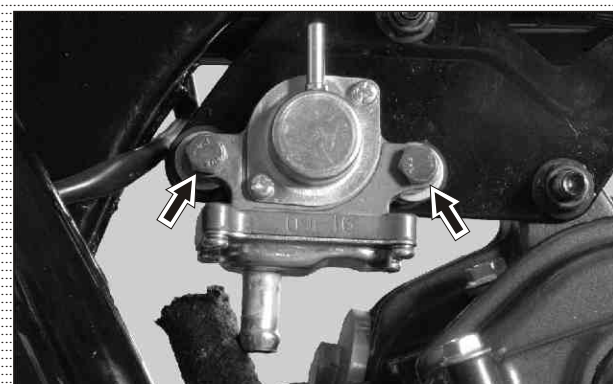

Fig. 4.49
- Remove hexagonal bolt (M6x30 - 2 nos.) from secondary air injection valve mounting and take out the valve along with punched washers (4 nos.). (Fig. 4.49)